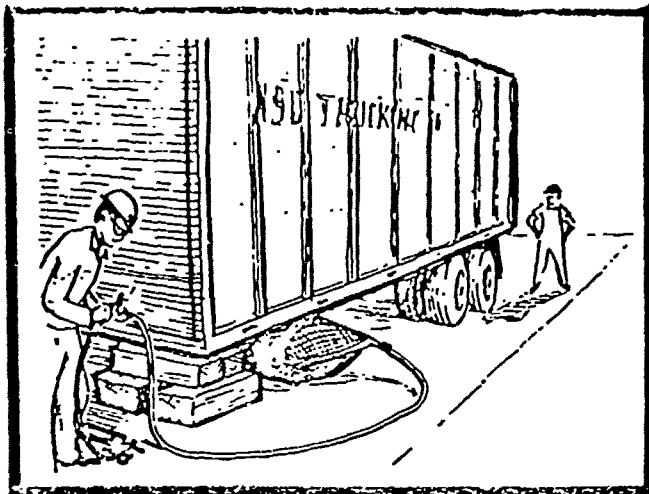

FIG. 17
5. As the load is being moved or lifted, always block and/or shore the load (Fig. 17).